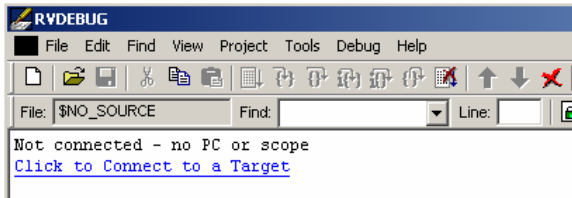

FIGURE 3 RealView Debugger's opening screen (upper left corner).
1. Start RealView Debugger and select the Click the Connect to Target (Figure 3) or the File | Connection | Connect to Target menu option.